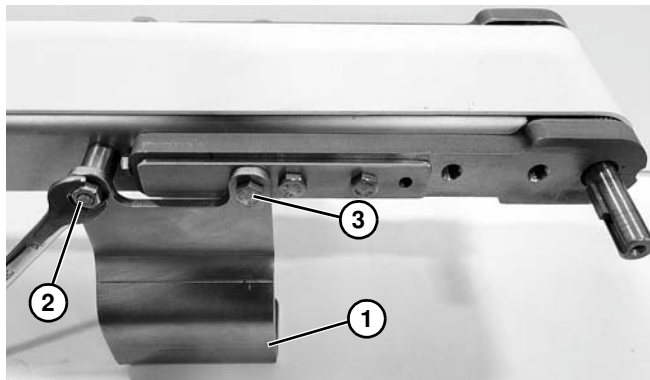

Figure 14
2. Drive End: Install table top mounting bracket (**Figure 14, item 1**) with carriage bolt, spacer, and nut (**Figure 14, item 2**), and screw (**Figure 14, item 3**) on each side.